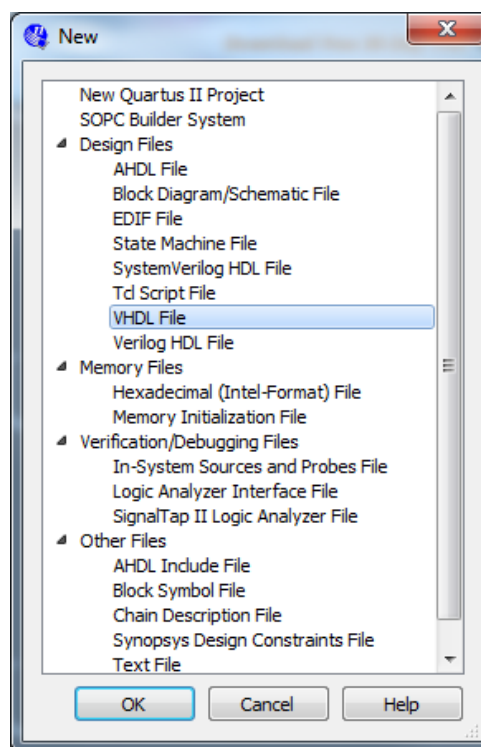
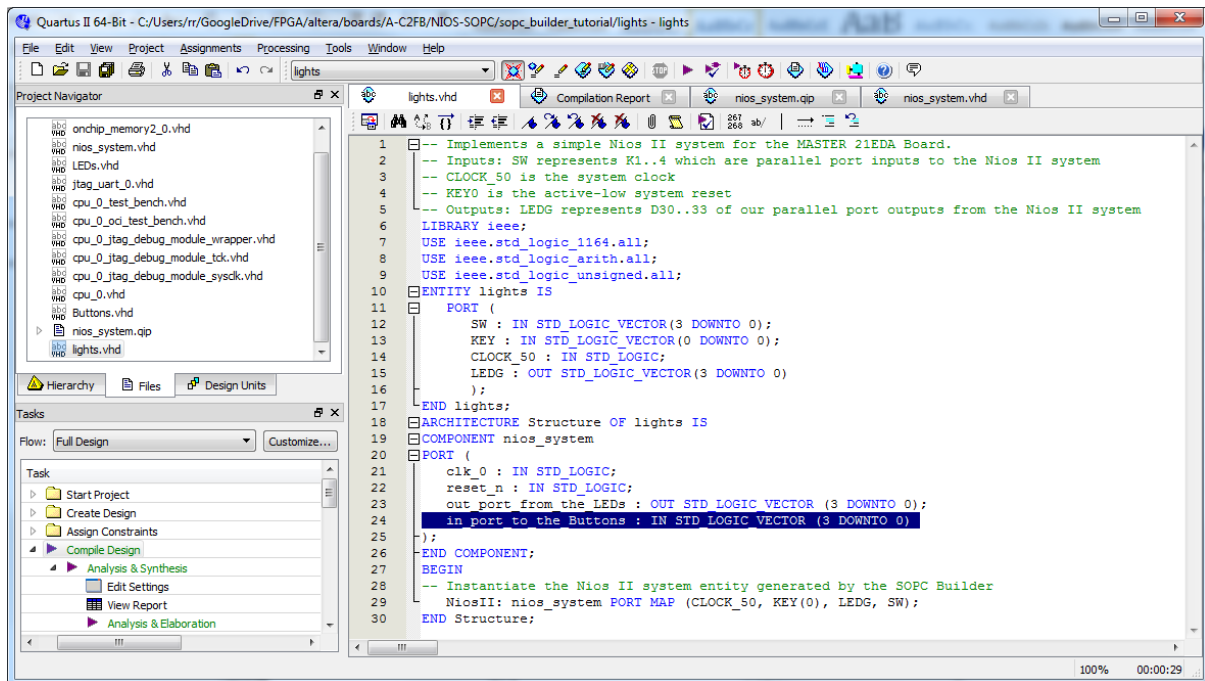
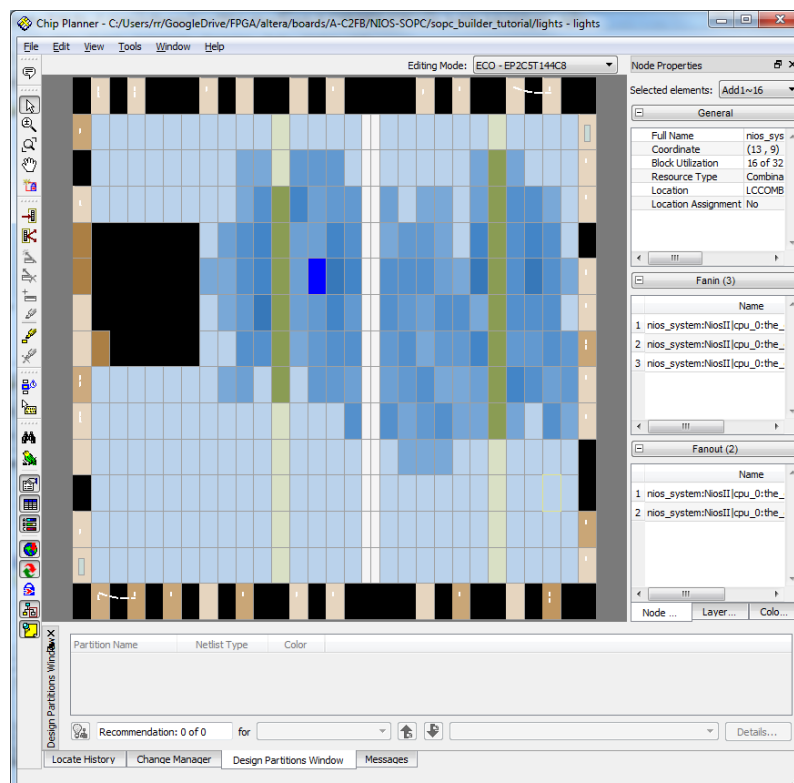

Figure 13. Create "lights.vhd"
Figure 14. MASTER 21EDA version of "lights.vhd"
Figure 18. Not so squeeze!
Step 11 is insidious. It may appear to do naught, however if you look at the diagrams in the tutorial, and note the differences in address displayed between **Figure 13** and **Figure 14** of the tutorial document you'll note something does happen.
Now, buried in the text is that we need to write "lights.vhd" so goto the "Files" menu, and "Add" a new file of type "VHDL" (Figure 13 below).
Ignore **Figure 18**. and edit up your "lights.vhd" to look like our Figure 14 below.
Now the design on the board will take up about a third of the chip area (Figure 18 below). That is interesting to note given we will move onto playing with other soft cores in later experiments.